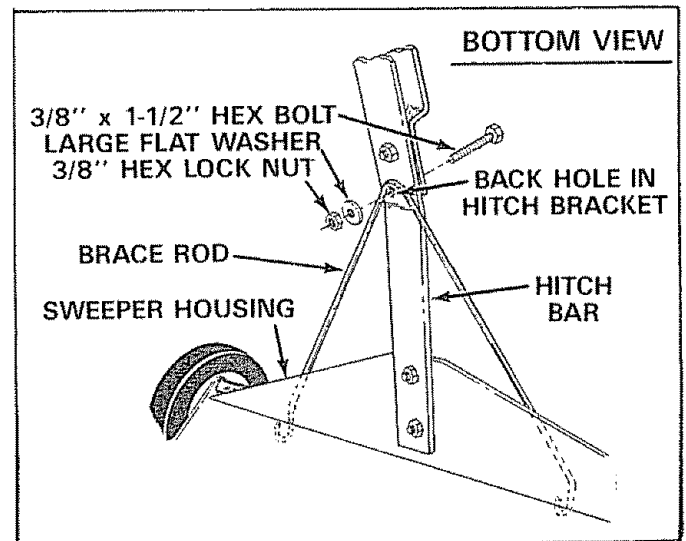
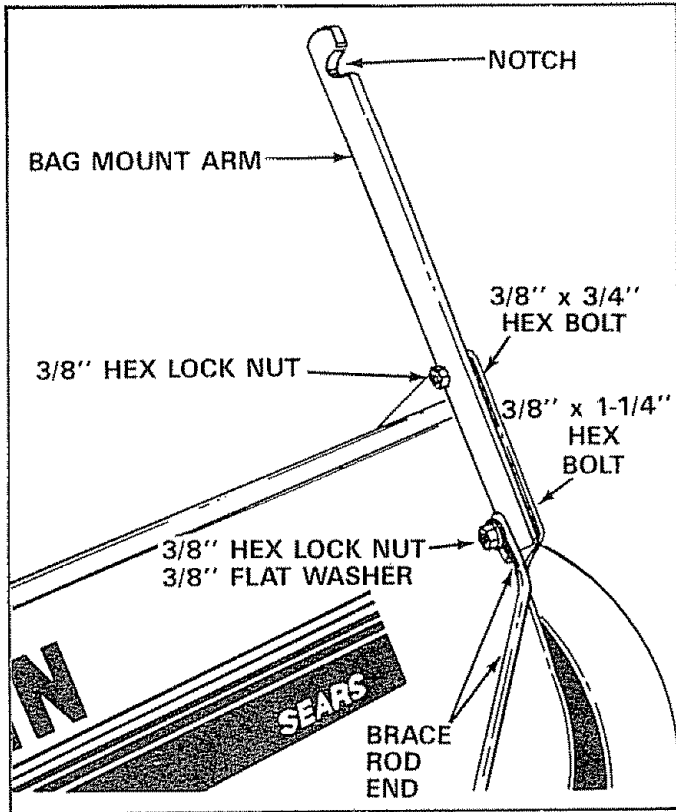

FIGURE 5
FIGURE 6
4. Assemble the two bag mount arms and top ends of brace rod. See figure 6. Assemble the top hole in arms to sweeper housing using two 3/8" x 3/4" hex bolts and 3/8" lock nuts. **The notched side of mount arms face upward and mount on the inside of housing. See figure 6.** Assemble the brace rod under hitch bar and large flat washer in back hole of hitch bracket and brace rod ends to bottom holes in arms and sweeper housing, using two 3/8" x 1-1/4" hex bolts, 3/8" flat washers and 3/8" hex lock nuts. See figures 5 and 6.